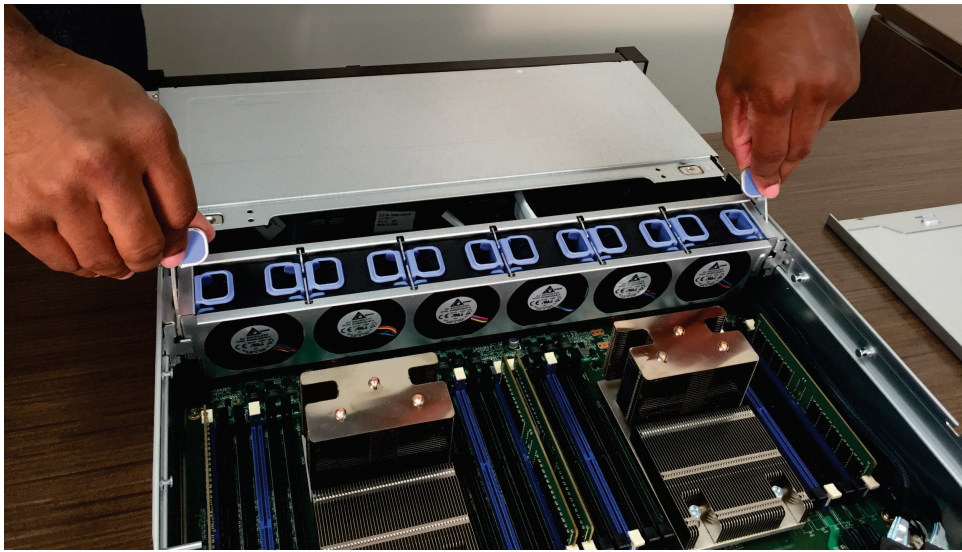

Figure 180. Removing the fan bracket
2. Press the fan-bracket release latches toward each other and lift the fan bracket out of the server, as shown in Figure 180.